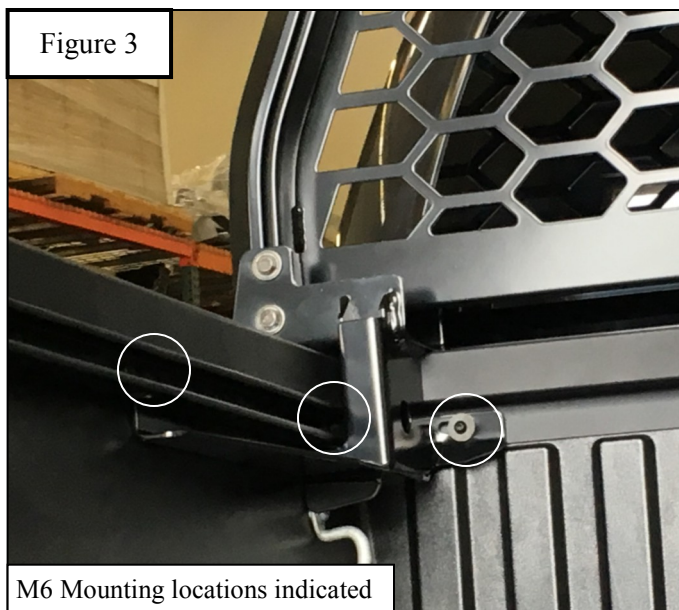
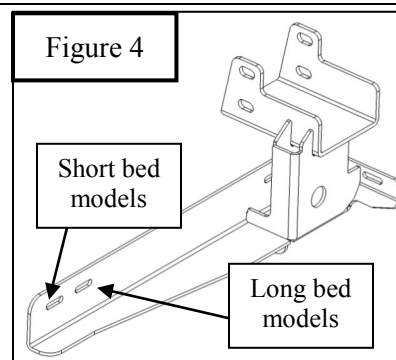

Figure 3
Figure 4
4. After replacing the bed rail to its original position, secure the Mounting Bracket to the vehicle with the supplied M6 Hardware in the factory mounting locations. **See Figure 3.** *Note: Long bed models will use the inner-most hole on the Mounting Bracket. Short bed models will use the outer-most hole. See Figure 4.*